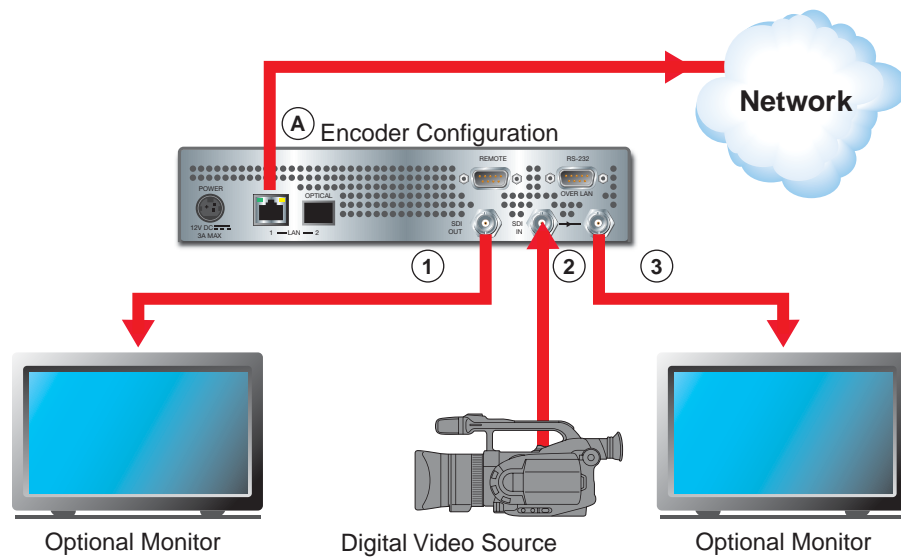

Figure 13. Video Connections in the Encoder Configuration
See figure 13.
- ① **SDI Out BNC connector** — This connector provides a buffered loop through of the original source with or without an optional text overlay.
- ② **SDI In BNC connector** — Connect an SDI, HD-SDI, or 3G-SDI digital video input for encoding and streaming to one or more decoders via the LAN port (item ④ on figure 13).
- ③ **Loop BNC connector** — This connector provides a buffered loop through of the original source.